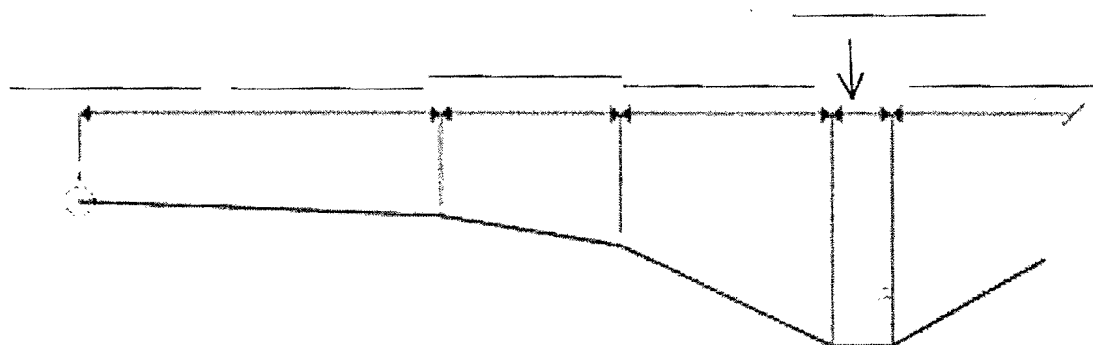

Figure. 4 Roadway Cross-Section
- (b). Fill in the blank on the Figure.4 below to identify the roadway cross-section elements. **6 points**